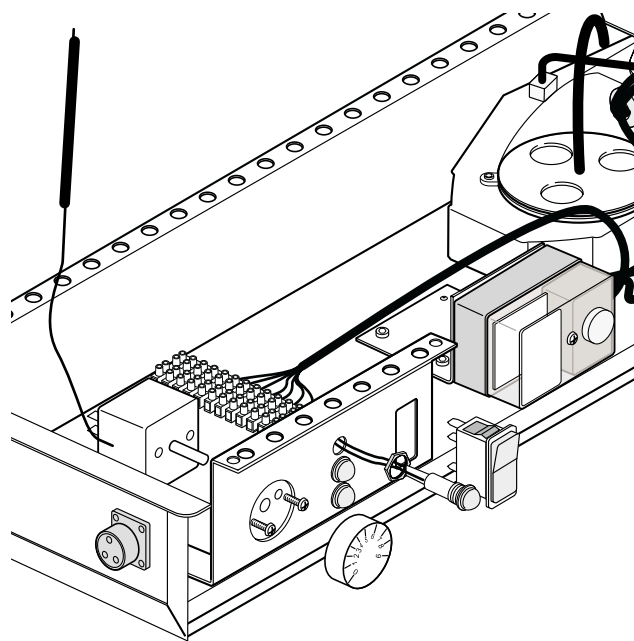

FIG. 18
- 6:1 TO REMOVE THE THERMOSTAT, REMOVE THE CONTROL KNOB, AND UNSCREW THE 2 RETAINING SCREWS. REPLACE WITH A NEW UNIT, AND REFIT ALL ITEMS (FIG. 18).